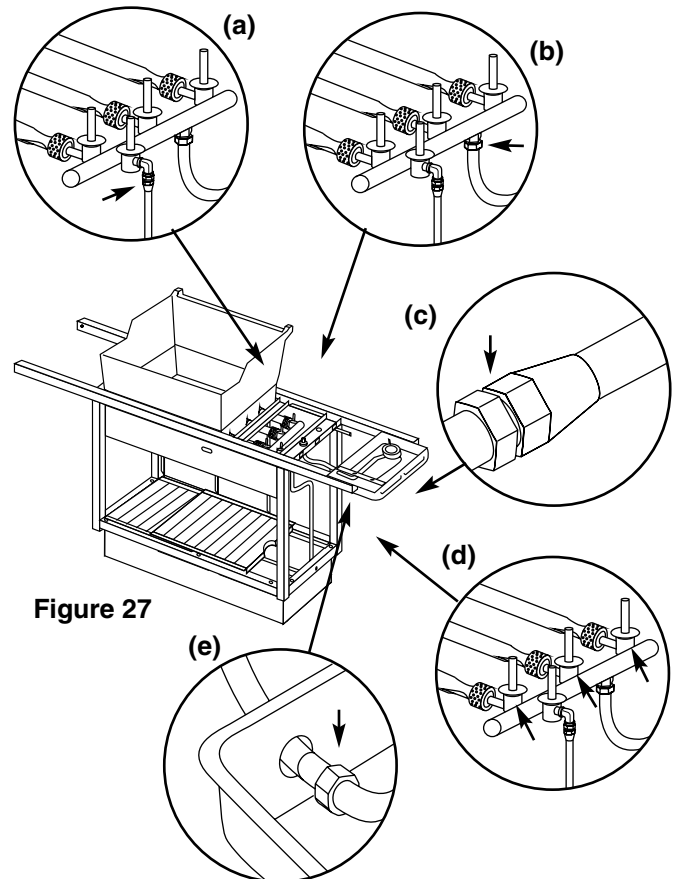

Figure 27
- Barbecue gas supply line to FlameCheck valve connection. Figure 27 (a).
- Manifold to side burner hose connection. Figure 27 (b).
- Barbecue gas supply line to natural gas supply connection. Figure 27 (c).
- Valves to manifold connections. Figure 27 (d).
- Side burner hose to side burner connection. Figure 27 (e).